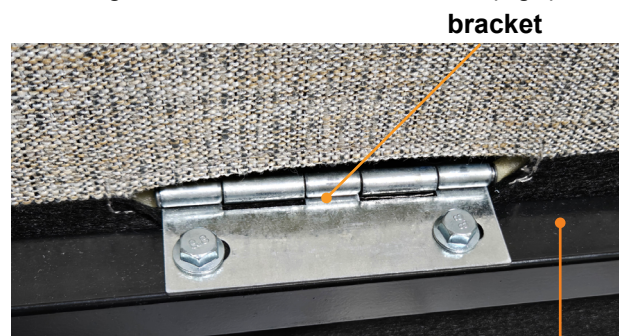

Fig.5
2. Set back assembly in place with holes in the mounting brackets aligned with holes in the V2 frame (Fig.5).